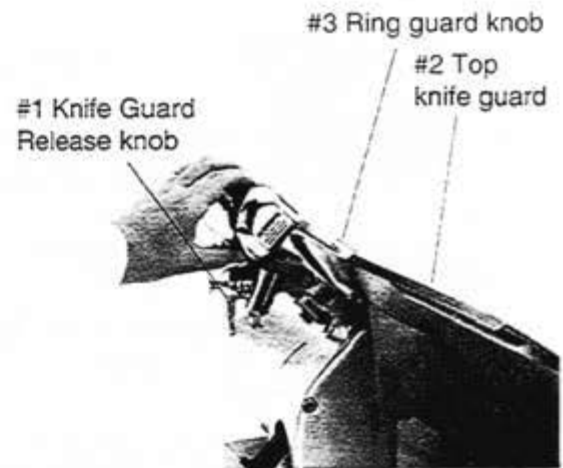

Figure 21-2
2. **Carefully** close the hinged area of the knife ring guard using the knob located at its top. (Fig. 21-2)
3. Loosen top knife cover release knob and rotate top knife cover counterclockwise to its original position. Tighten knife cover release knob. (Figure 21-2, #1)